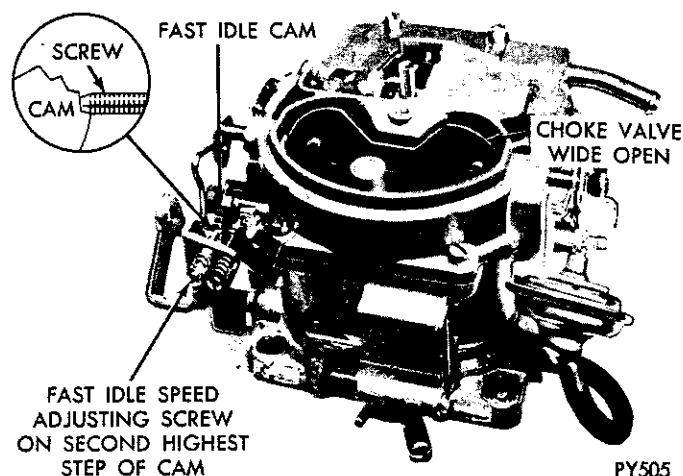

Fig. 17—Fast Idle Speed Adjustment (on Vehicle)
(1) With engine off and transmission in PARK or NEUTRAL position, open throttle slightly.
(2) Close choke valve until fast idle screw can be positioned on second highest-speed step of fast idle cam (Fig. 17).
(3) Start engine and determine stabilized speed. Turn fast idle speed screw in or out to secure specified speed. (See Specifications.)
(4) Stopping engine between adjustments is not necessary. However, reposition fast idle speed screw on cam after each speed adjustment to provide correct throttle closing torque.